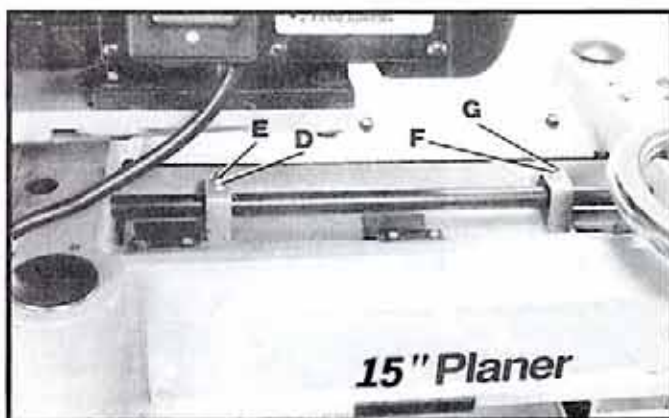

Fig. 37
5. If the height of the chipbreaker must be adjusted, remove the top cover of the machine. Loosen nut (D) Fig. 37, and turn screw (E) until that end of the chipbreaker is properly adjusted. Then tighten nut (D).
6. Place the gage block on the other end of the chipbreaker and if an adjustment is necessary loosen nut (F) .37, and turn adjusting screw (G).